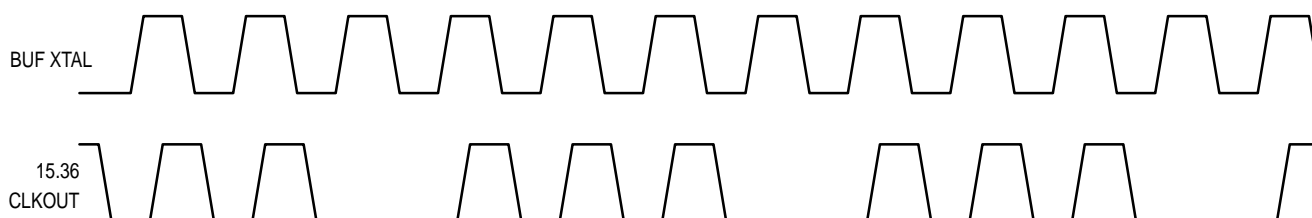

Figure 16. Waveform for 15.36 MHz Clock Output
15.36 CLKOUT provides a buffered 15.36 MHz clock output that can be used for the MC145474/75 S/T transceiver clock. This clock is a 20.48 MHz clock with every fourth clock tick removed. Figure 16 shows the 15.36 MHz clock waveform. There may be applications where this clock is inadequate.